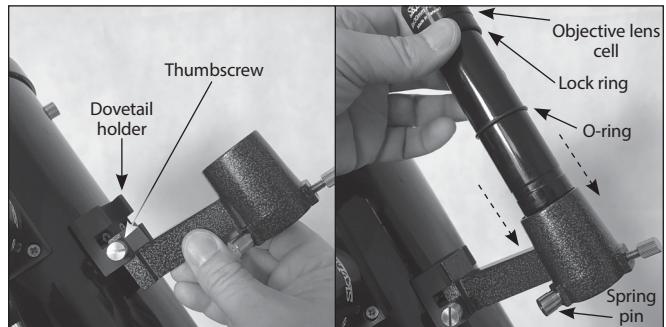

Figure 18. Slide the foot of the finder scope bracket into the dovetail base as shown, and lock it with the thumbscrew.
1. To do so, first remove the rubber O-ring from the bracket. Now insert the foot of the finder scope bracket into the dovetail holder near the focuser (**Figure 18**). Lock the bracket into position by tightening the knurled thumb screw on the dovetail holder.